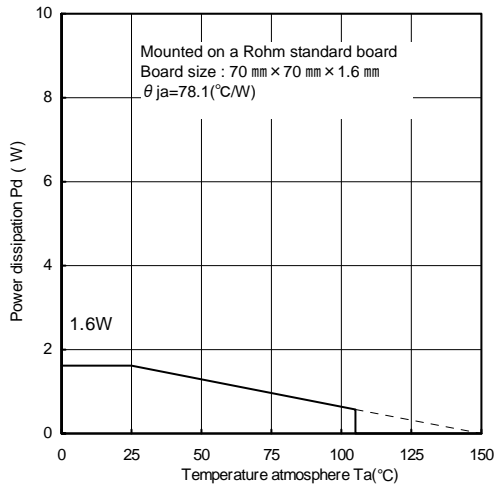
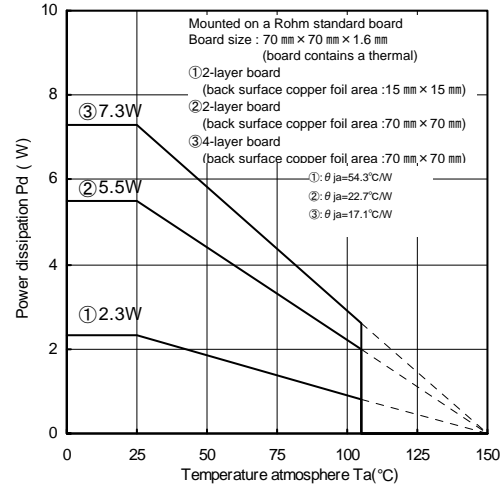

Fig.15
Fig.16 (Reference data)
When using at temperatures over $T_a=25^{\circ}\text{C}$, please refer to the heat reducing characteristics shown in Fig.15. and Fig.16. The IC characteristics are closely related to the temperature at which the IC is used, so it is necessary to operate the IC at temperatures less than the maximum junction temperature $T_{j\text{max}}$.
Fig.15 and Fig.16 shows the acceptable loss and heat reducing characteristics of the HRP5 package. Even when the ambient temperature T_a is a normal temperature (25°C), the chip (junction) temperature T_j may be quite high so please operate the IC at temperatures less than the acceptable loss P_d .
The calculation method for power consumption $P_c(\text{W})$ is as follows : (Fig.16③)
$$I_o \leq \frac{3.796 - 10 \times I_b}{5} \quad \left[\begin{array}{l} \text{Fig.16③: } \theta_{ja}=17.1^{\circ}\text{C/W} \rightarrow -58.4\text{mW}/^{\circ}\text{C} \\ 25^{\circ}\text{C}=7.3\text{W} \rightarrow 85^{\circ}\text{C}=3.796\text{W} \end{array} \right]$$